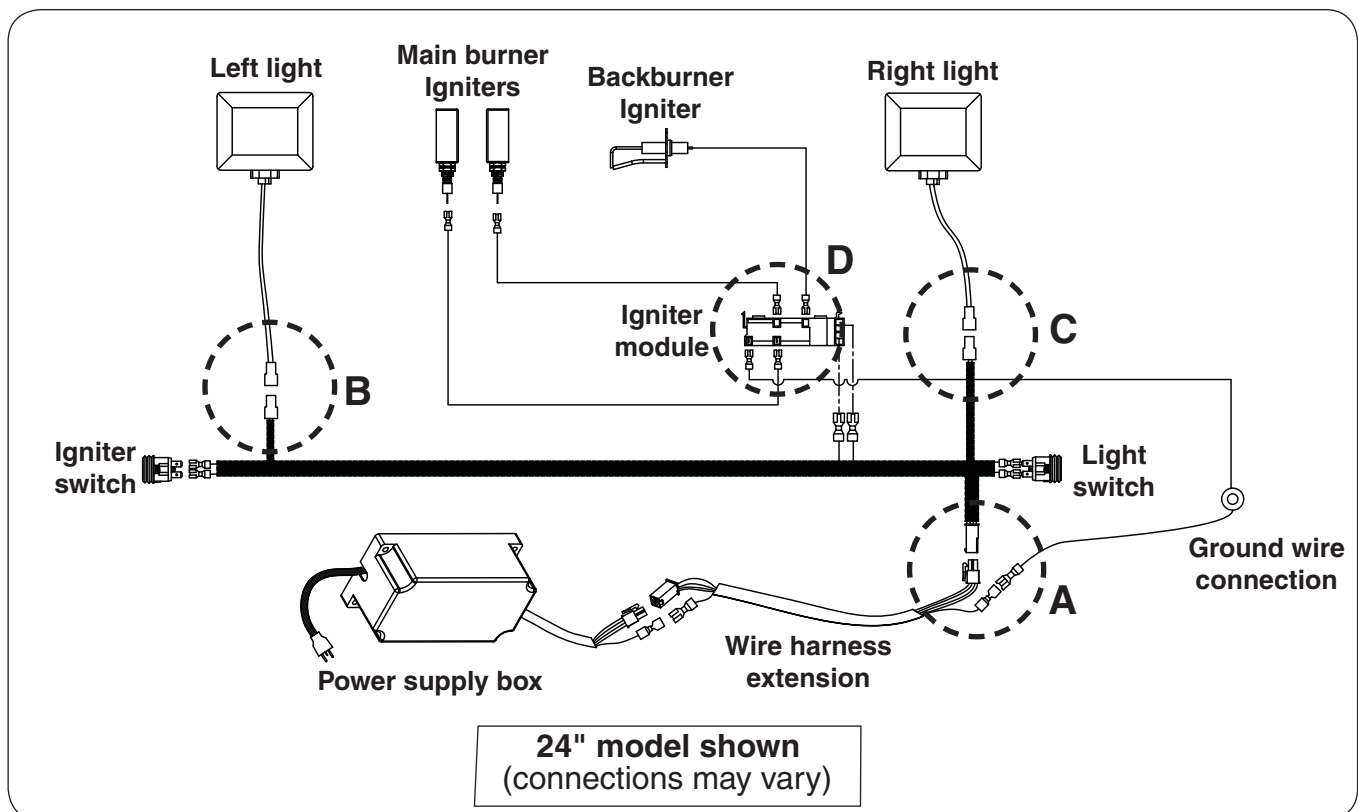

Fig. 32-1 - Wire diagram
2. Disconnect the main wire harness connections (**A**), the left light connection (**B**), the right light connection (**C**), and the igniter wires (**D**). It is recommended to temporarily label the wires for reference when reconnecting. See Fig. 32-1. When disconnecting, be sure to pull from the connectors, and not the wires.